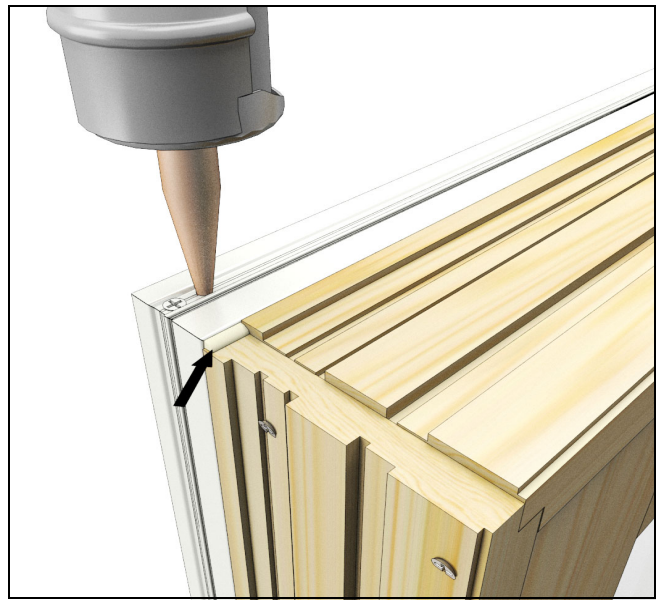

Figure 10
3. Use the remaining holes in the head jamb cladding to inject the keys. Inject until you see squeeze out in the image shown below. See Figure 10.